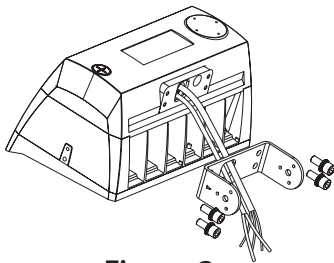

Figure 3
2. YOKE MOUNTING (YM)
Step 1: Put the input wire of the light across the bracket. (Figure 3)